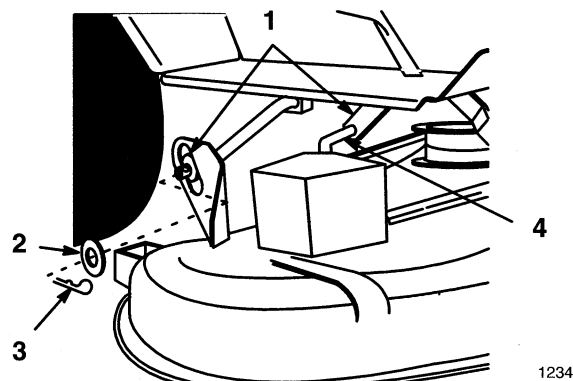

**Figure 4**
3. Slide the mower under the chassis from the right side (Fig. 4) and align rear mounting bushings with ends of lift arms.